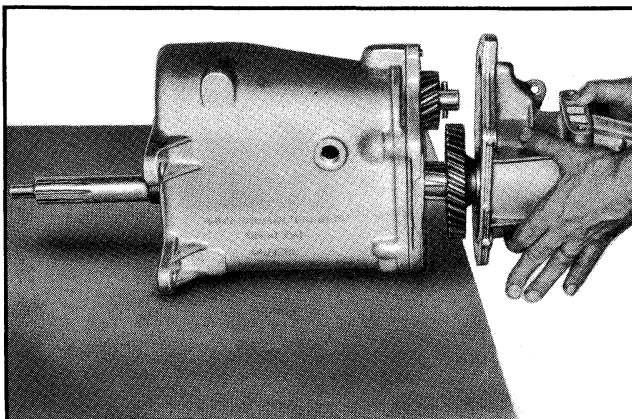

Fig. 7A-34 Installing Case Extension
18. Position reverse gear at rear of spline, pull reverse shifter shaft to left side of extension and rotate shaft to bring reverse shift fork forward in extension (reverse detent position). Start the extension onto the transmission case (Fig. 7A-34), while slowly pushing in on the shifter shaft to engage the shift fork with the reverse gear shift collar. Then pilot the reverse idler shaft into the extension housing permitting the extension to slide onto the transmission case.